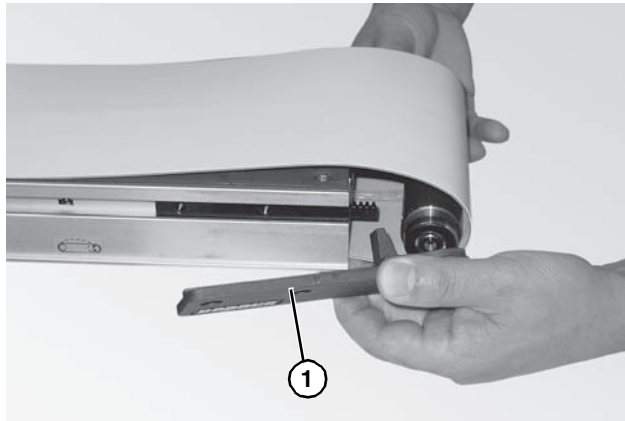

Figure 65
2. Place the head plate (**Figure 65, item 1**) and attach the head plate to the conveyor frame with the two (2) plates removed. tighten screws 60 in-lb (7 Nm).